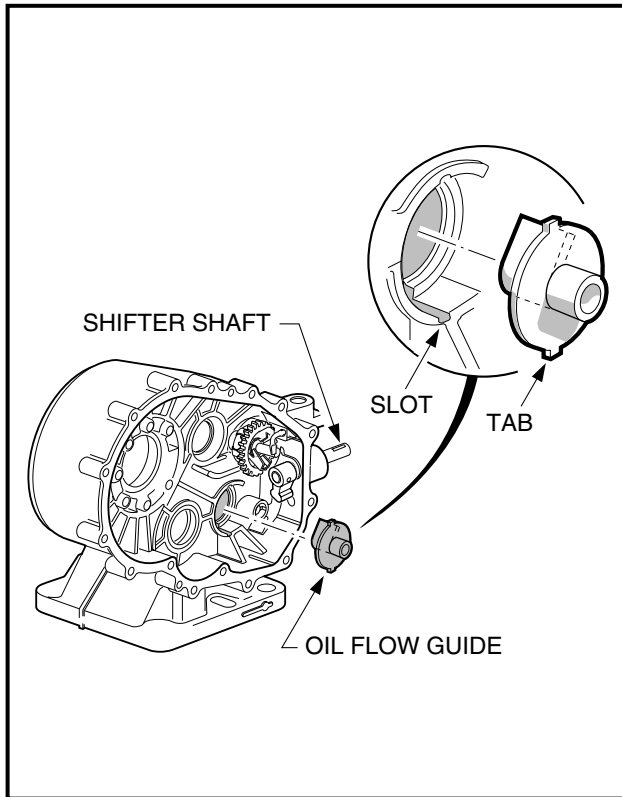

Figure 19-11 Oil Flow Guide
14. Remove the oil flow guide from the case (**Figure 19-11, Page 19-8**).
15. Remove the shifter shaft and oil seal from the case (**Figure 19-11, Page 19-8**).